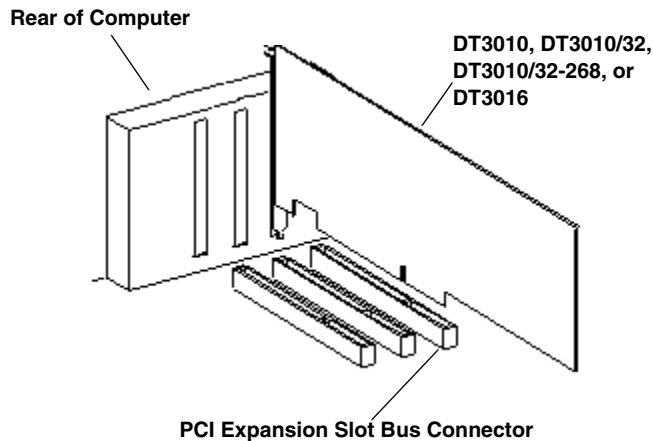
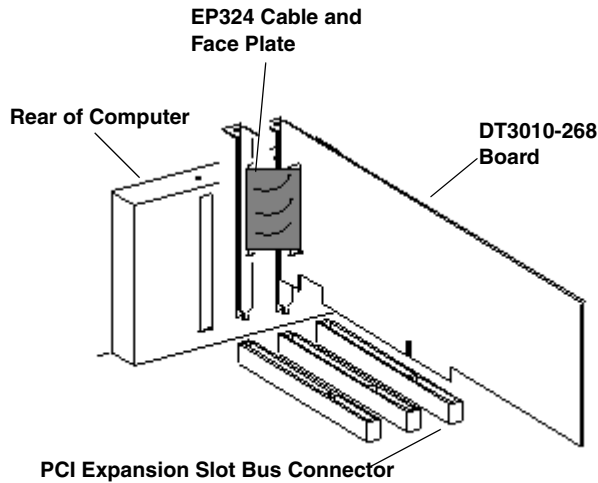

Figure 3: Inserting the DT3010 Series Board in the Computer
Figure 4: Inserting the DT3010-268 Board in the Computer
1. Position the board so that the cable connectors are facing the rear of the computer. Figure 3 shows an example of inserting a DT3010, DT3010/32, DT3010/32-268, and DT3016 board. Figure 4 shows an example of inserting a DT3010-268 board.